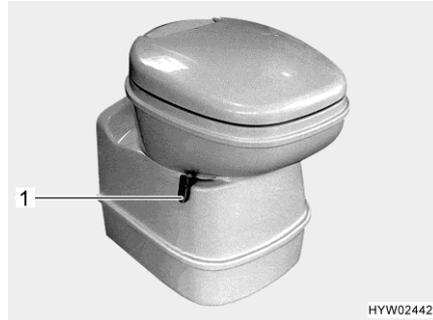
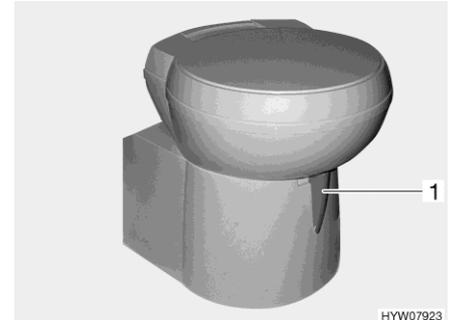

Fig. 269 Thetford toilet bowl, swivelling
Fig. 270 Thetford toilet bowl, swivelling (alternative)
- Before flushing open the sliding trap of the Thetford toilet. To do this, push the slide lever (Fig. 269,1 or Fig. 270,1) in an anticlockwise direction.